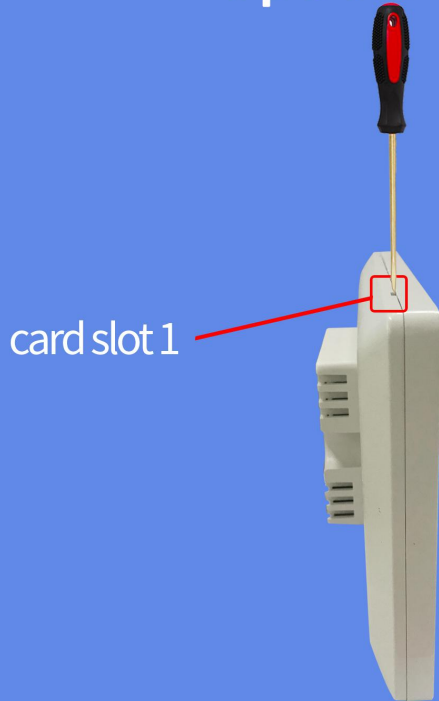

fig.1
1. Force hooks off slots lightly by a screwdriver in turn (fig. 1&2)